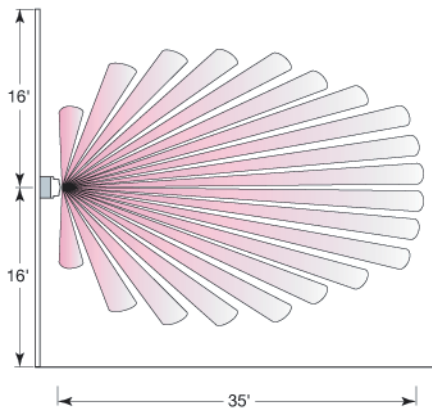

Figure 1 – View Behind Door
2. Make sure sensor's OFF/AUTO switch is in the OFF (down) position (see Figure 1).